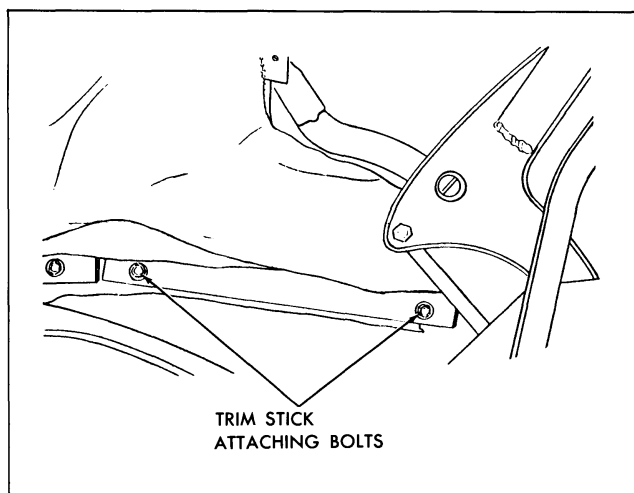

Fig. 21-15 Rear Quarter Trim Stick
10. At each rear quarter area remove attaching bolts securing rear quarter trim stick assembly to rear quarter inner panel (Fig. 21-15).